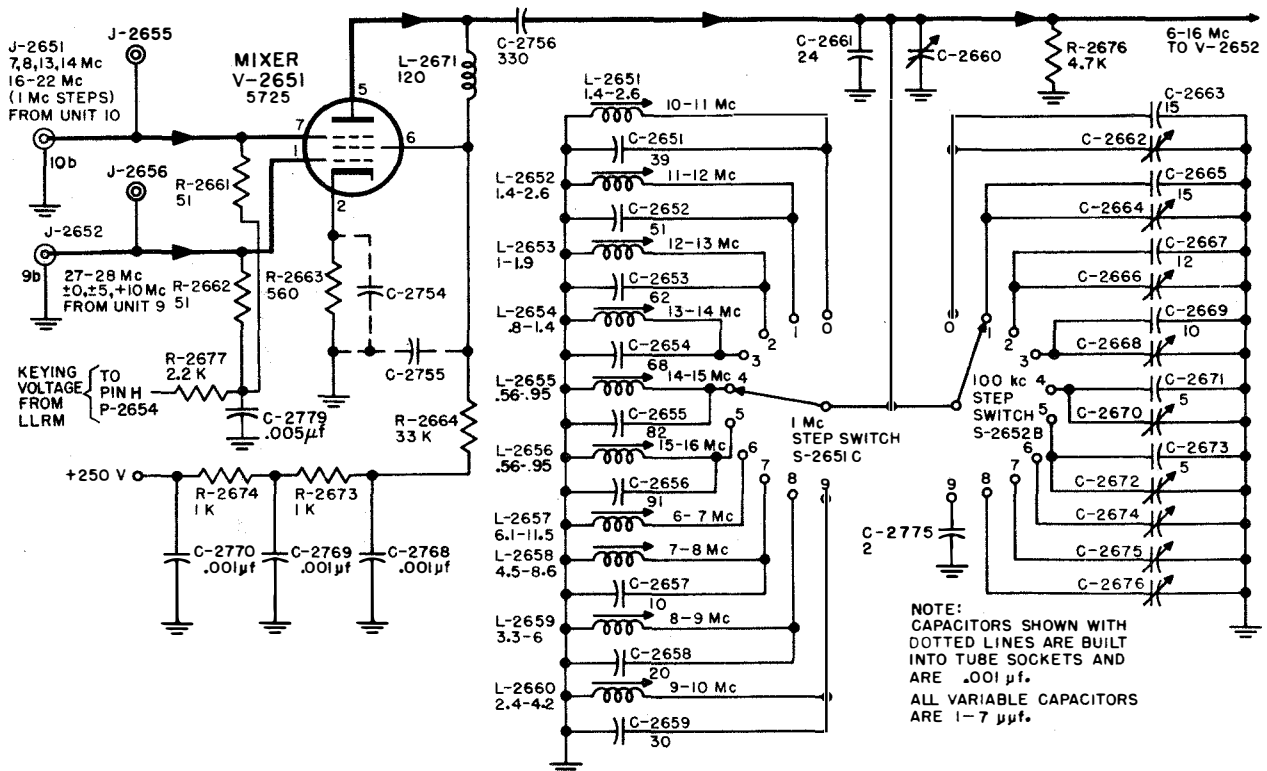

Figure 2-36. RFO Unit 11B, Mixer V-2651, Simplified Schematic
(1) MIXER V-2651.—The inputs from units 10 and 9 are applied, respectively, to the suppressor and control grids of the mixer, V-2651 (figure 2-36). The frequencies of these inputs are determined by the settings on the mounting front panel. For example, to select 12 mc, the (AA) KNOB control is set at 2 and the (BB) KNOB control is set at 8. As a result, input 9b is 32 to 33 mc and input 10b is 20 mc. Mixer V-2651 combines these inputs to produce an output of 12 to 13 mc. The 1-mc step switch, S-2651, selects the proper tuned filter circuit for the mixer. This switch is controlled by the MC control knob (CC). For an output frequency setting of less than 10 mc, control (CC) is set to the megacycle value of the frequency; for outputs of 10 mc or higher, control (CC) is set to the second figure of the megacycle value. Therefore, in the case of 12-mc value, control (CC) is set at 2. To provide for the wide bandwidth requirements, 100-kc step switch S-2652 changes the capacitance in parallel with the 1-mc step filters so that each 1-mc filter may be tuned in 100-kc steps. R-2676,